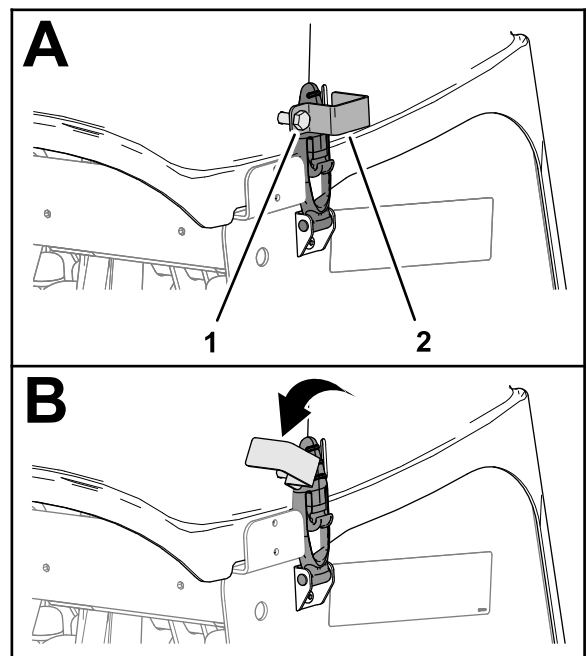

Figure 149
1. If you machine has CE latch locks, loosen the lock-plate bolt until the lock plate clears the slot in the side of the coring-head cover (Figure 149).
2. Rotate the lock plate to clear the latch (Figure 149).